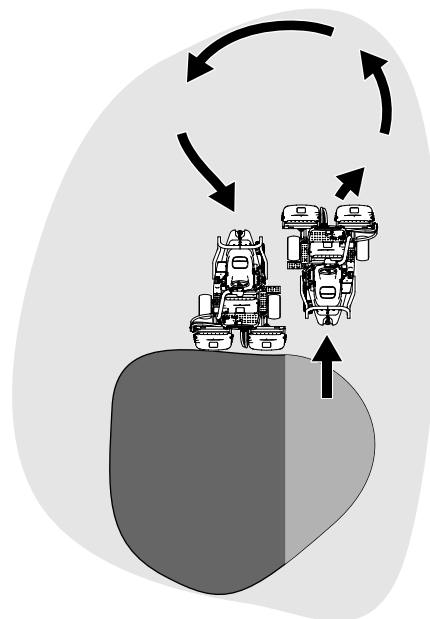

Figure 28
6. To cut down on operating time and to ease the lineup for the next pass, momentarily turn the machine in the opposite direction, then turn it in the direction of the uncut portion. This movement is a tear-shaped turn (Figure 28),